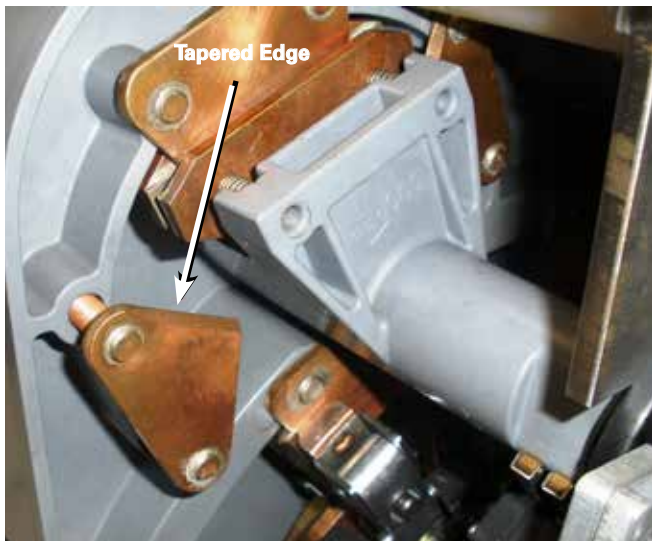

Figure 90. VL reversing stationary contact removal.
- Remove the VL reversing stationary contact from the contact assembly panel. See Figure 90.
- Install the new VL reversing stationary contact into the mounting holes in the contact assembly board. Make sure when installing the contact that the leading tapered edge is positioned toward the reversing neutral stationary contact. If the tapered edge is facing in the wrong direction, the stationary VR contact is being used. See Figure 90.